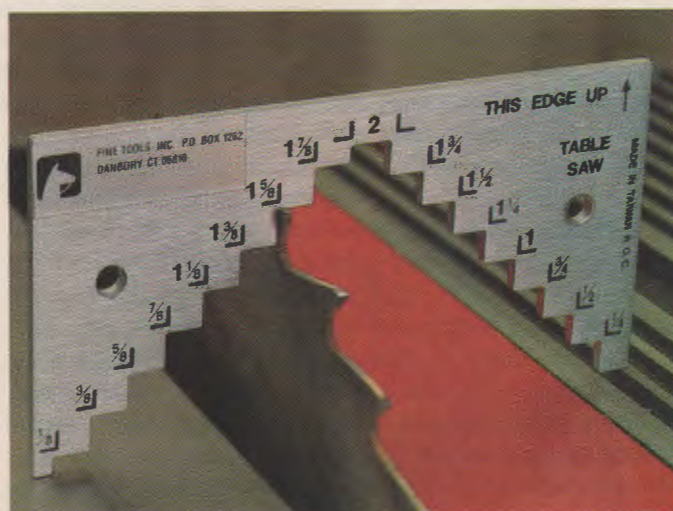

Fig. 21-10. Blade height is set easily with this gauge. (The Fine Tool Shops)
4. Hold a ruler near the blade and adjust the height. You could also use a blade height gauge, Fig. 21-10.